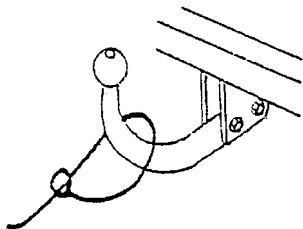

Fig. 3A
- Fixed ball: Loop the cable around the neck of the towball in a single loop only. See figure 3A and 3B, Page 28.